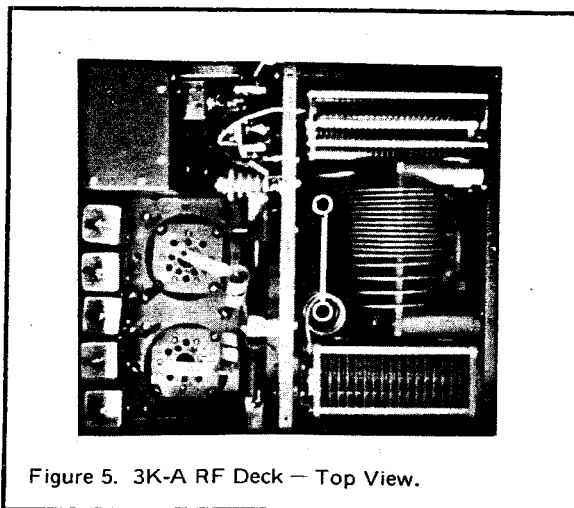

Figure 5. 3K-A RF Deck — Top View.
- 6 Inside the RF deck, in the center of the bottom plate, are two screws holding the RF deck to the power supply. The screws are held by nuts which are accessible from the power supply section. Remove these two screws (see Figure 5).